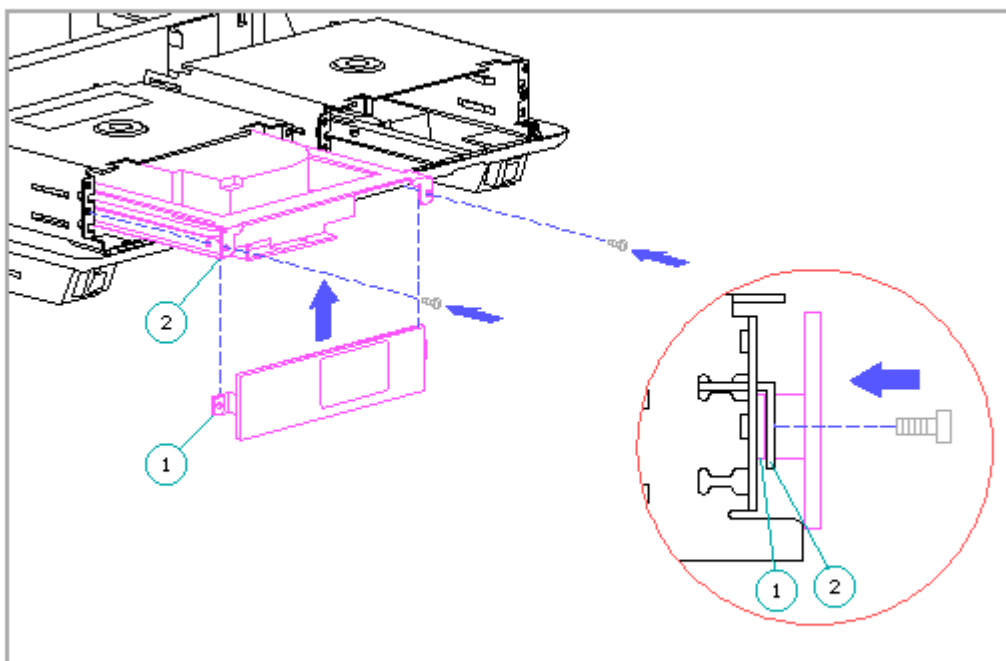

Figure 9-30. Installing a Blank Drive Panel
**IMPORTANT:** If the hard drive has no front panel, install a blank panel over the drive bay opening (Figure 9-30). Place the panel tabs [1] behind the metal tabs at the front of the hard drive frame [2]. If the panel is installed in front of the metal tabs, the bottom cover of the expansion base cannot close properly.